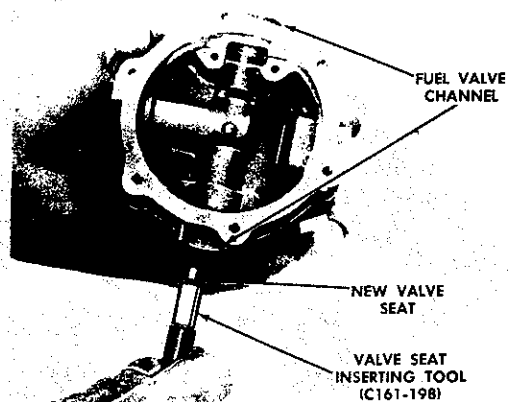
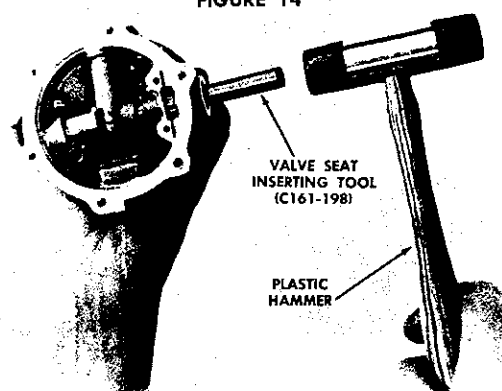

FIGURE 14
FIGURE 15
1. If valve seats have been removed, replace them with new seats as follows: Hold body casting with valve channel in a vertical position. Figure 14. Place a new valve seat, orifice down, on inserting tool (C161-198). Insert tool and valve seat in valve channel. Use a small hammer and seat the valve by driving it in with a series of light taps. Figure 15.